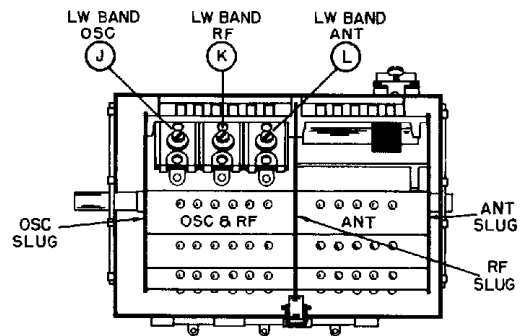

Fig. 7. Bottom View of Tuner Showing Location of Alignment Adjustments
- The RF and antenna slugs are accessible thru the opening at the rear of the tuner. (See Figs. 7 and 8.) Note that it is necessary to unclip and remove the antenna coil strip of the band being aligned to gain access to the RF slug.